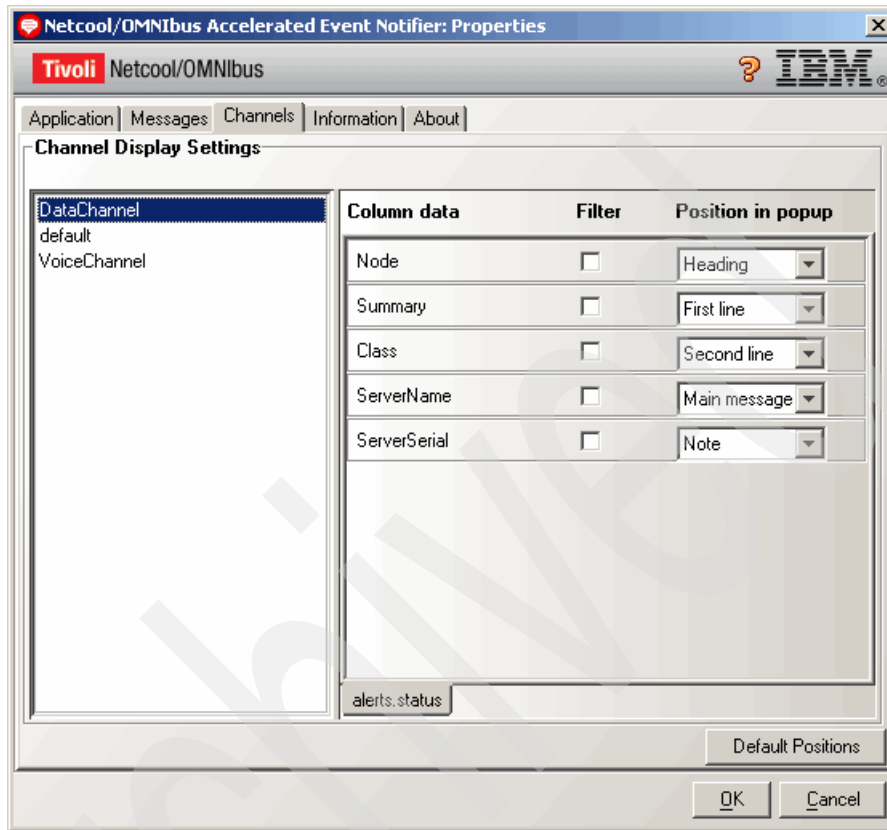

Figure 4-55 AEN Channels tab
5. On the Channels tabs, modify the settings as shown in Figure 4-55.